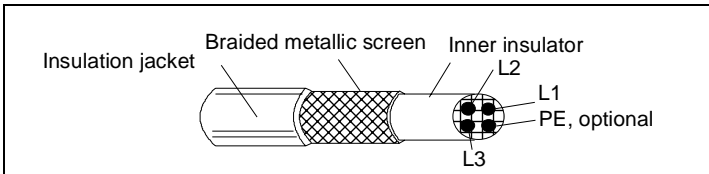

Figure 8 Effective motor cable screen (e.g. Ölflex-Servo-FD 780 CP, Lappkabel or MCMK, NK Cables).
The general rule for cable screen effectiveness is: the better and tighter the screen of the cable, the lower the radiated emission level. Example of an effective construction is presented in Figure 8.
* Effective motor cable screen is required, according to Figure 8.
For ACS 101-4K1-1 and ACS 103-4K1-1, a cable shown in Figure 8 is required.
With input filters ACS100-FLT-C or ACS140-FLT-C conducted emission complies with the limits for unrestricted distribution class in First Environment as specified in EN 61800-3 (EN 50081-1) provided that the motor cable has effective screen (see Figure 8) and maximum length is 30 m.
The motor cable lengths have to be limited as specified in Table 6 and the cable must have effective screen according to Figure 8. At the motor end, the cable screen must be grounded 360 degrees with an EMC cable gland (e.g. Zemrex SCG screened cable glands).